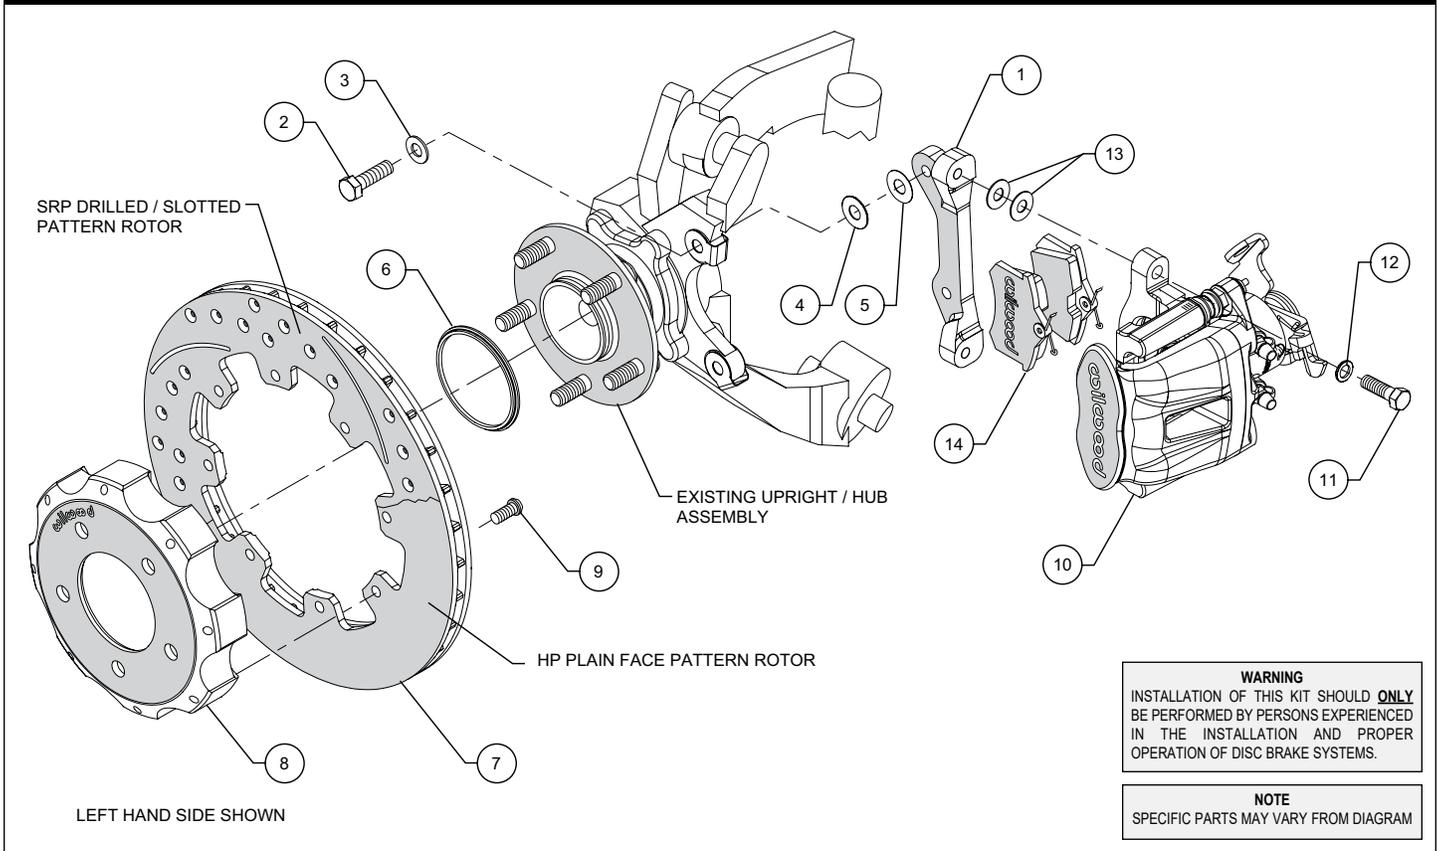

Figure 1. Typical Installation Configuration
NOTE: Numbers in parenthesis refer to the parts list and Figure 1 on the preceding pages.
•The caliper mount bracket (1) should initially be installed with clean, dry threads on the mounting bolts. Orient the bracket as shown in Figure 1, and install using mounting bolts (2) and washers (3). Initially place one each .016" thick shim (4), and .030" thick shim (5) on each bolt between the bracket and upright, Figure 1. Temporarily tighten the mounting bolts. **NOTE:** The bracket must fit squarely against the mount bosses on the upright. Inspect for interference from casting irregularities, machining ridges, burrs, etc. Later, after the caliper alignment has been checked, the mount bolts will be secured using red *Loctite*® 271.
•Orient the rotor (7) and the hat (8) as shown in Figure 1 and Photo 1. Attach rotor to hat using bolts (9). Apply red *Loctite*® 271 to the bolt threads and torque to 25 ft-lb using a criss-cross pattern.
•Slide the rotor registration adapter (6) onto the axle register on the axle hub with the smaller O.D. facing outward, Photo 2. Slide the hat/rotor assembly onto the axle hub. **NOTE:** The hat must fit flush against the axle hub flange or excessive rotor run out may result. Install three lug nuts (finger tight) to keep the hat/rotor assembly in place while continuing with the installation.
•Slide the brake pads (14) up into the caliper (10) from the bottom with the friction material facing the rotor until the "v" spring clip snaps into place against the anvil, as shown in Figure 1 and Photo 3. They should install easily without interference.
•Mount the caliper (10) onto the mounting bracket (1) using bolts (11) and washers (12), as shown in Figure 1 and Photo 4. Initially place two .035" thick shims (13) on each bolt between the caliper and the bracket. Temporarily tighten the mounting bolts and view the rotor (7) from the end of the caliper. The rotor should be centered in the caliper, Photo 5. If not, adjust by adding or subtracting .016" shims (4) and/or .030" shims (5) between the caliper mounting bracket and the upright to center the caliper on the rotor. Always use the same amount of shims on each of the two mounting bolts. Once the caliper alignment and pad centering are correct, remove the bolts (2) one at a time, apply red *Loctite*® 271 to bolt threads, and torque to 35 ft-lb.